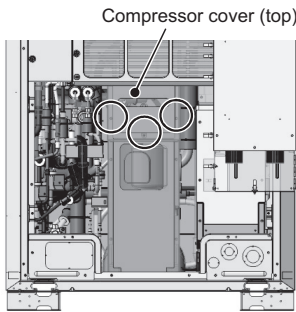

Figure 1
- (1) Remove the top compressor cover by unscrewing the three screws. (See Figure 1.)
[Figure 1]